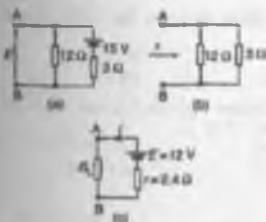

Figure 13.85
- (i) Resistance R_L is removed from the circuit as shown in Fig. 13.85(a)
- (iii) Removing the source of e.m.f. gives the circuit of Fig. 13.85(b), from which, resistance,
- (iv) The equivalent Thévenin's circuit supplying terminals AB is shown in Fig. 13.85(c), from which,